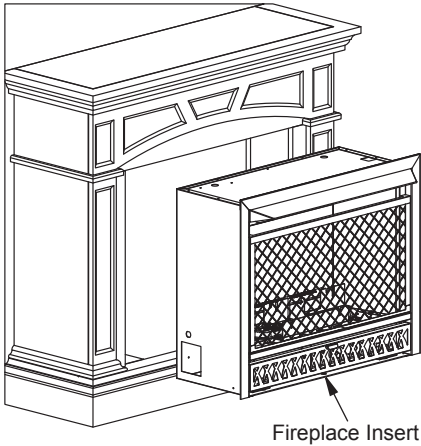

Figure 39
12. After assembling the mantel, carefully lift to the upright position. Push the fireplace insert from the front of the mantel as shown in Figure 39.